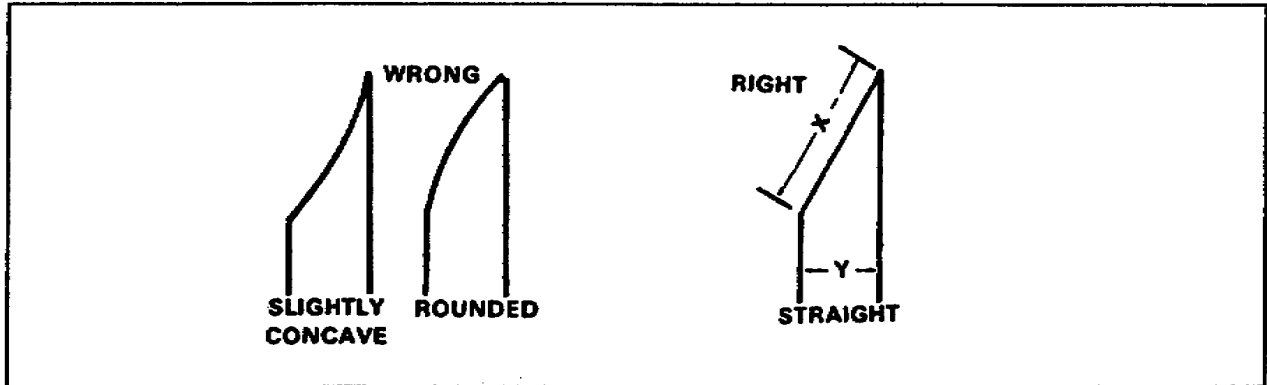

Figure 2-24. Ground and honed chisel
(5) Grinding and Honing. Figure 2-24 shows a properly ground and properly honed chisel. Remember X should equal twice the width of Y.